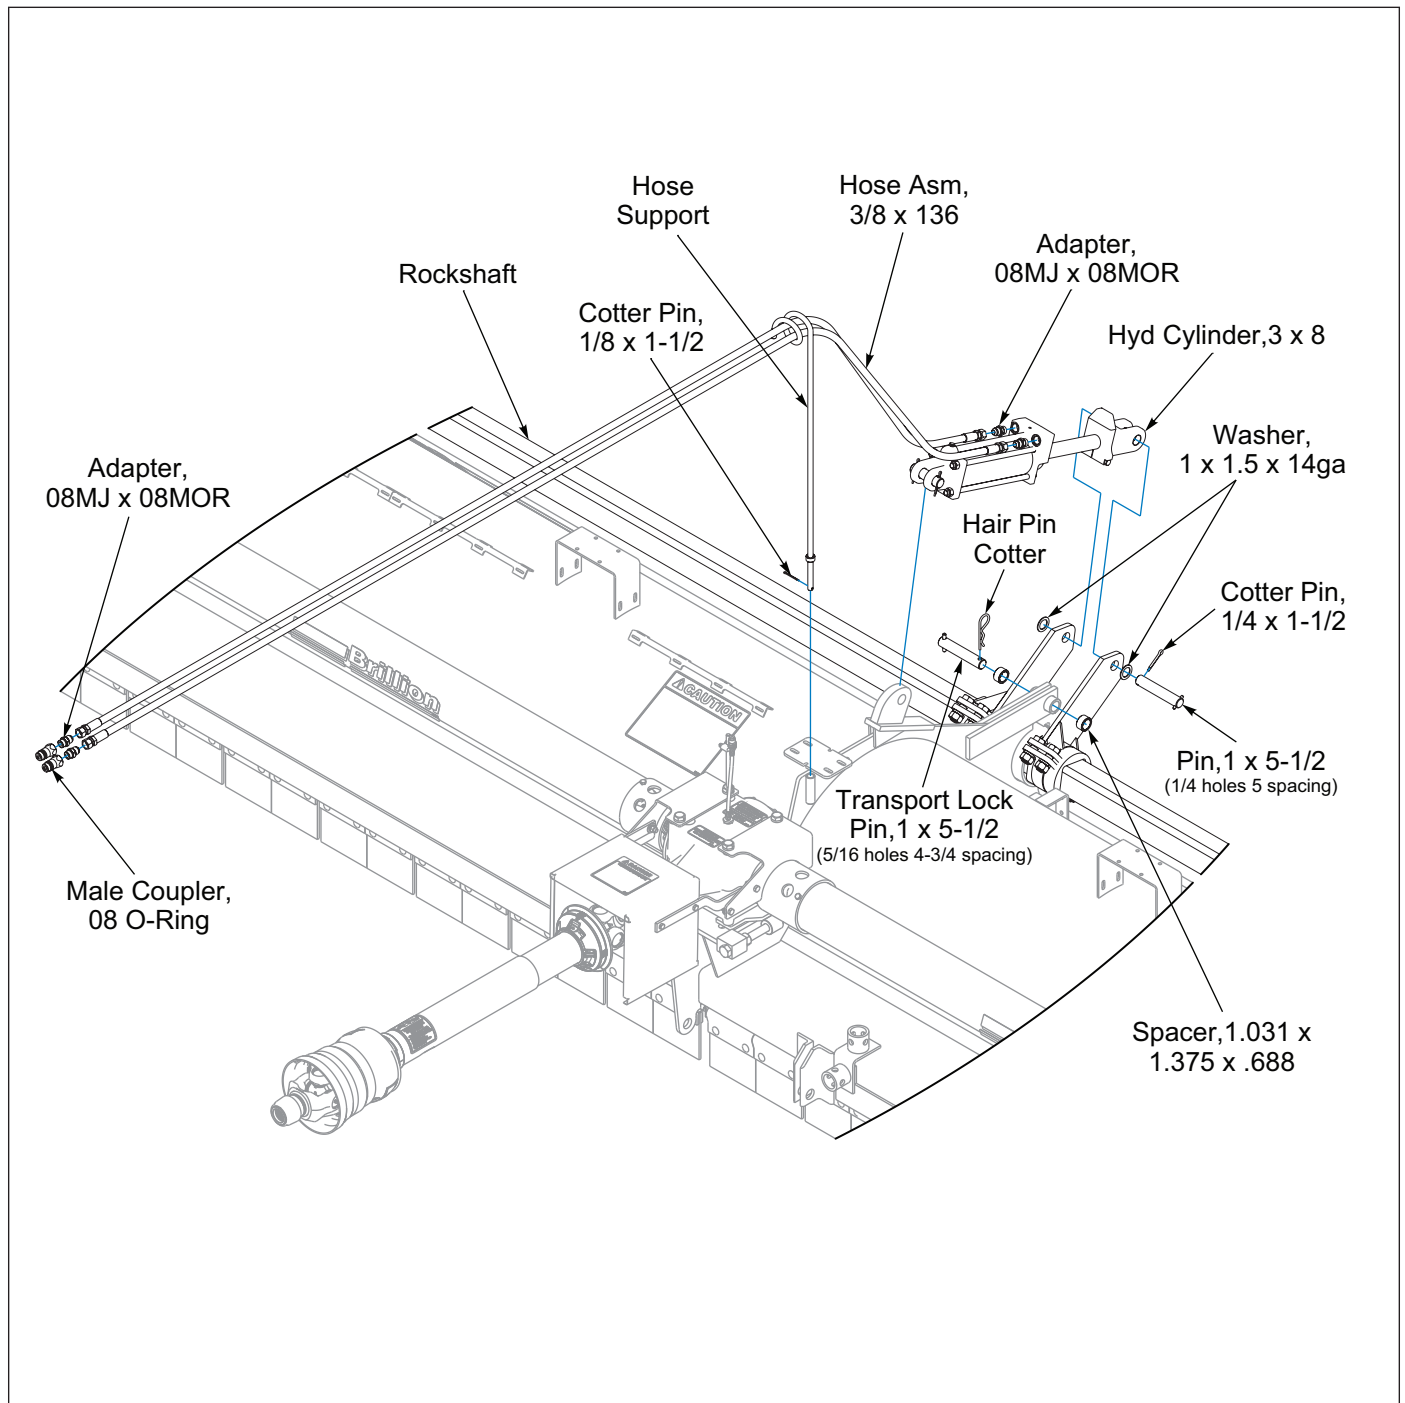

Figure 2-12: Hydraulic Lift Circuit Installation
3. Orient the 3 x 8 Hydraulic Cylinder with the Hydraulic Cylinder Rod End down. Remove the Shipping Link Lower Pin from the Rockshaft Lugs. Discard Shipping Link. Install the Rod End of 3 x 8 Hydraulic Cylinder to the Rockshaft Lugs with the removed 1 x 5-1/2 Pin (1/4 holes on 5 spacing). Secure with Cotter Pin. Attach the base end of the 3 x 8 Hydraulic Cylinder to the Shredder Frame Lug with the vendor supplied hardware. **See Figure 2-12.**
1. Install 08MJ x 08MOR Adapter into 3/8 x 8 Hydraulic Cylinder ports. **See Figure 2-12.**